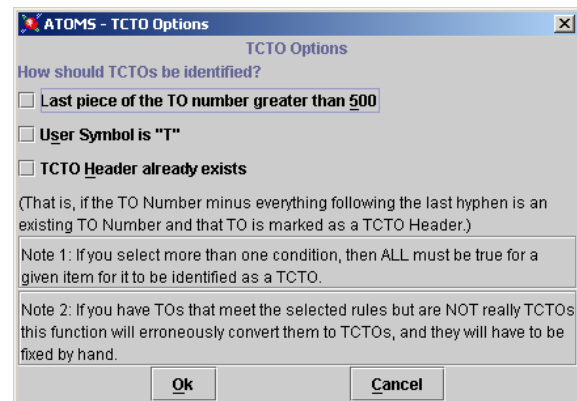

Figure 4-28. TCTO Patch Options
- 9) If a back-up is made and run or not, the **TCTO Options** window appears (Figure 4-28). Click the second check box **User Symbol is "T"** first. If only that box is checked, only those TCTOs marked with a **T** are then converted into Increments. If even more specificity is desired, click either or both of the other two options.